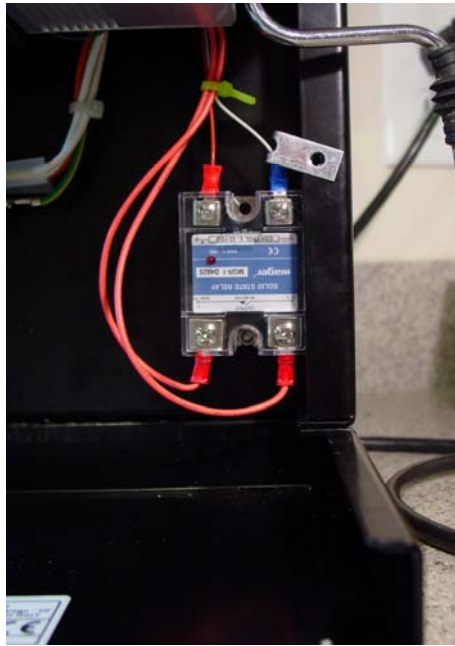

Figure 10b. SSR installed.
- 2) The SSR is mounted on the wall behind the splash guard panel (lower right corner as shown in fig. 10b). Apply small amount of the silicone heat transfer compound to the bottom metal surface of the SSR. Mount the SSR to the screw post as shown. Use the M4 screw nut and washer supplied in the kit to hold the SSR. The M4 screw can be tighten with a 7 mm socket wrench. Use a cable tie to hold four cables in place.